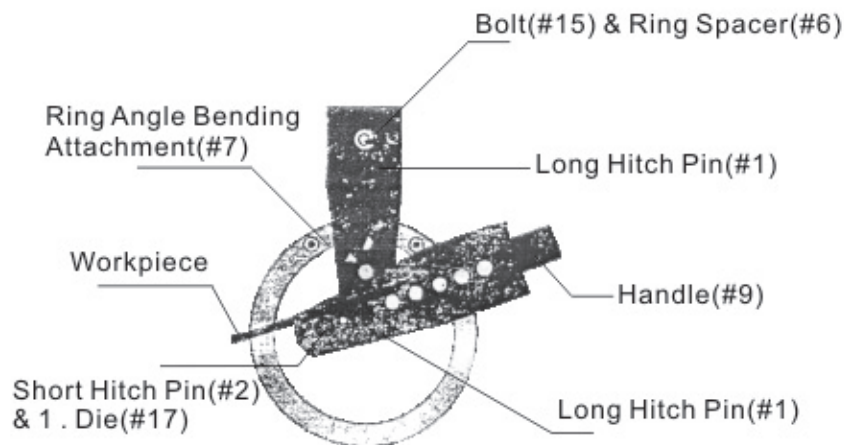

Figure5 - Using Angle Bending
Step 1: Attach the RIGHT ANGLE BENDING ATTACHMENT(#7) as shown in Figure 5.